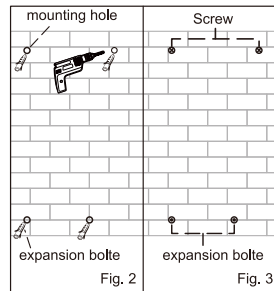

Fig. 2
2. Drill 4 mounting holes (Ø6x32mm) at the marked position (Fig. 2).
3. Put expansion boltes into the holes (Fig. 2).